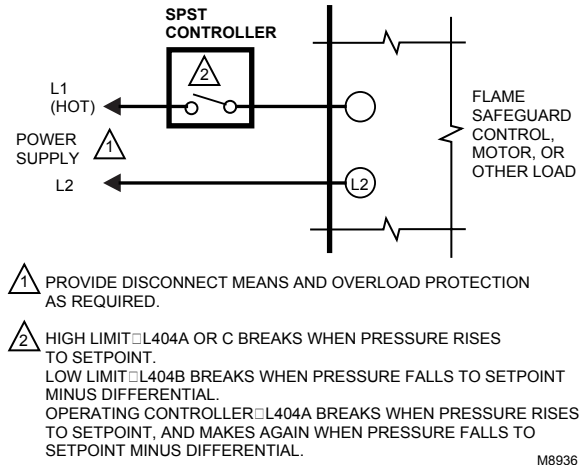

Fig. 5. L404 used as a limit or as an operating controller.
5. Refer to Fig. 5 through 9 for typical hookups. Follow the burner or boiler manufacturer wiring diagrams, if provided.